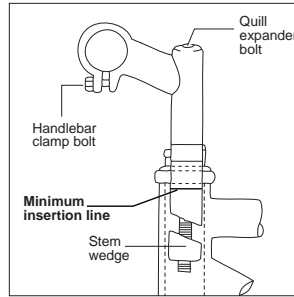

Fig. 25: Quill stem parts
- Quill-type (Fig. 25)
1. Decrease the tightness of the steerer-clamp bolts two to three turns (Fig. 25).
A quill stem that is too high can cause damage to the bicycle, decrease your control, and cause you to fall. Make sure the minimum insertion mark is in the frame (Fig. 25).
1. Decrease the tightness of the quill expander-bolt two to three turns (Fig. 25).
3. Adjust the handlebar to the necessary height. Take note of the minimum insertion point as marked on the stem quill. Never raise the stem beyond the minimum insertion point (Fig. 25). A minimum of 70mm of the stem should always be in the frame.